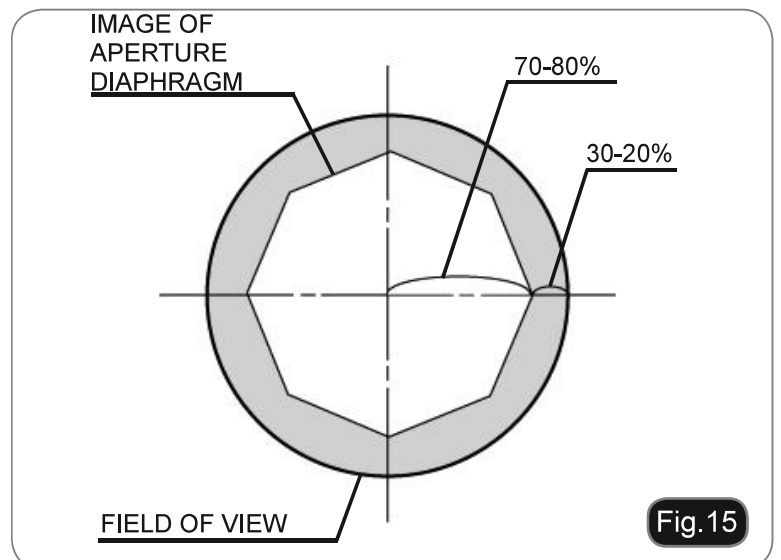

Fig.15
- With low contrast specimens set the numerical aperture value ① (printed on the condenser ring) to about 70%-80% of the objective's N.A. If necessary, remove on eyepiece and, looking into empty sleeve, adjust the condenser's ring in order to obtain an image like the one in fig. 15.